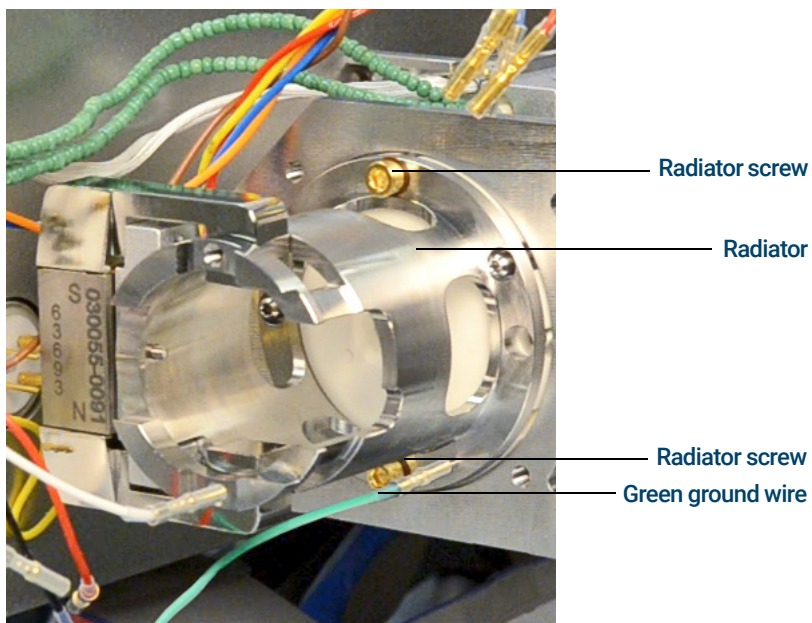

Figure 78. CI/EI XTR Source radiator
- 2 Disconnect the green ground wire from the radiator. (See Figure 78.)